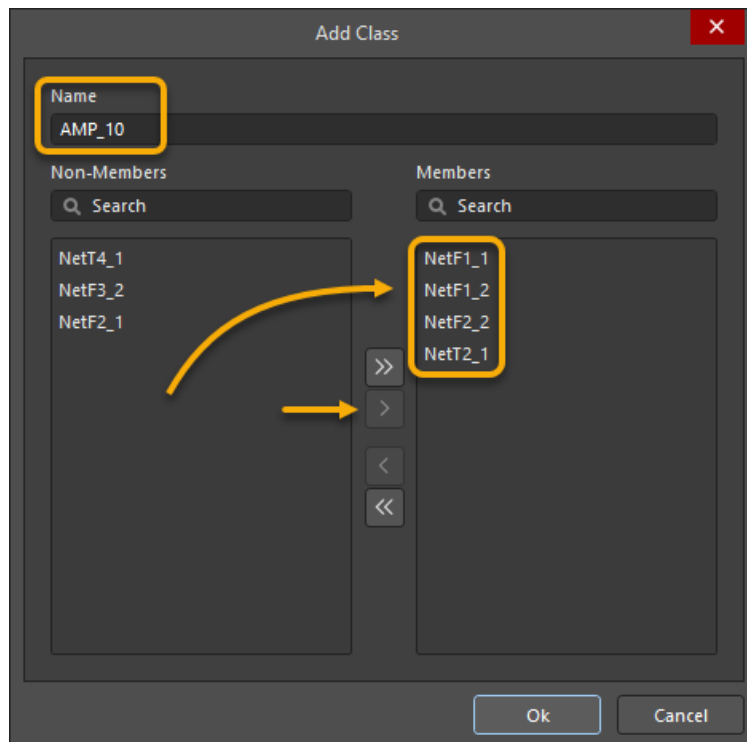

Figure 7. Add Class members to a Class
- Select **OK** to close the dialog, as seen in Figure 7.